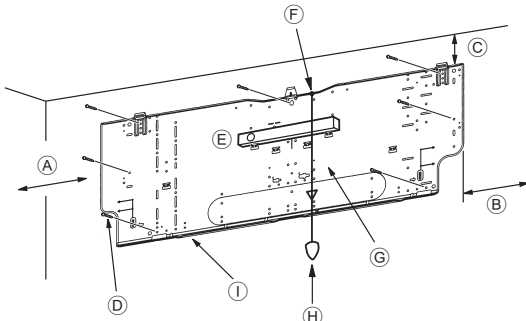
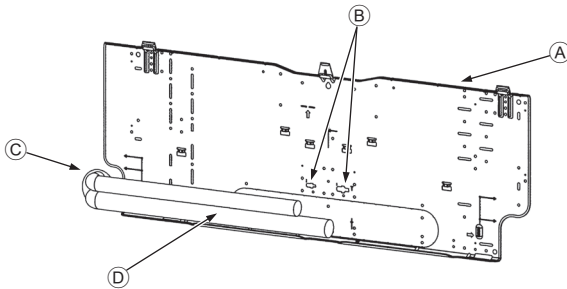

Fig. 3-4
Fig. 3-5
■ PKFY-P-VKM-E (Fig. 3-4)
- Ⓓ Fixing screws (4 × 25) ②
- Ⓛ Mount board ①
3.3. When embedding pipes into the wall (Fig. 3-5)
- Ⓐ Mount board ①